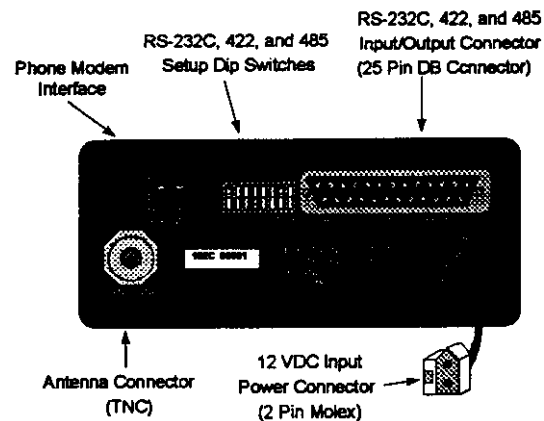

Figure 5: ESTEem Rear Panel Diagram
- This next section is titled Set RS-232 Switches of the ESTeem. Press ENTER and the window will display how the RS-232 switches on the rear of the ESTeem (Figure 5) need to be set to match the configuration of the computer's communication port that we set in step 5. Configure the switches on the ESTeem to match those listed in the window and press any key to continue.